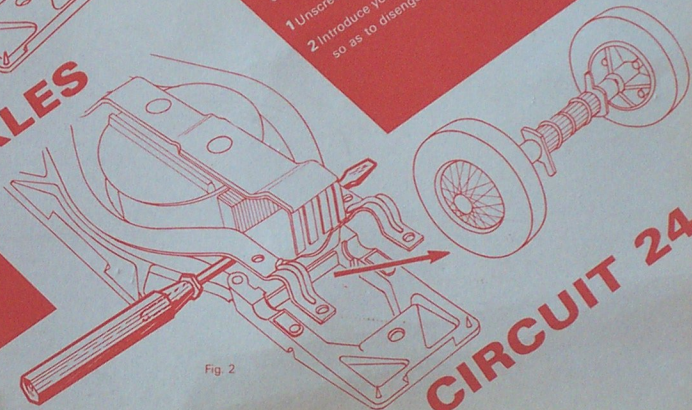

Fig. 2
- 2 Introduce your screwdriver between the metal and plastic chassis so as to disengage the used rear-axle (fig. 2).